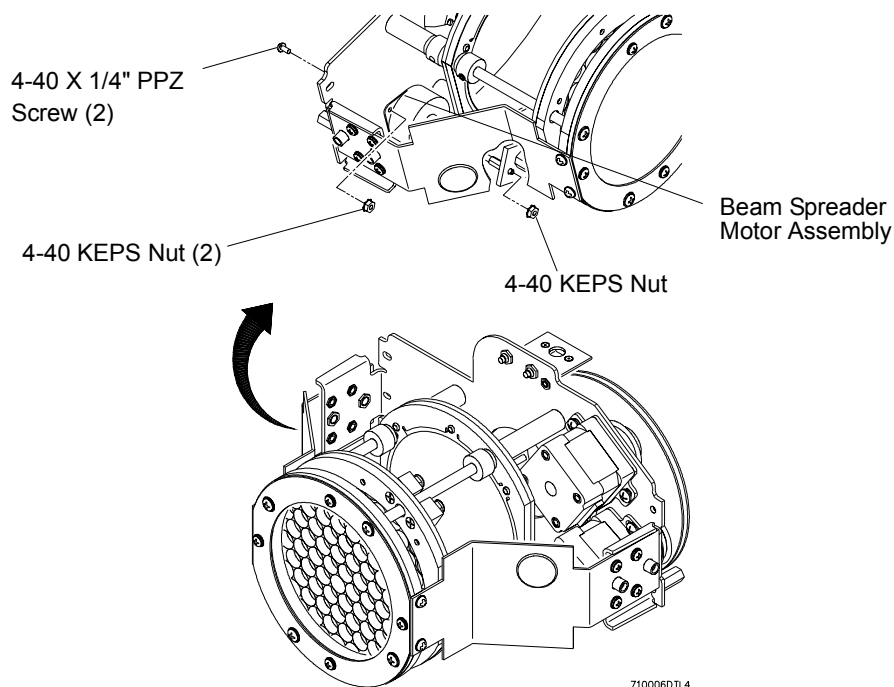

Figure 2-17: Beam Spreader Motor Assembly Replacement
- Step 4. At beam spreader motor assembly, using 1/4" open-ended wrench and pliers, remove one 4-40 KEPS nut from end of motor shaft (**Figure 2-17**).